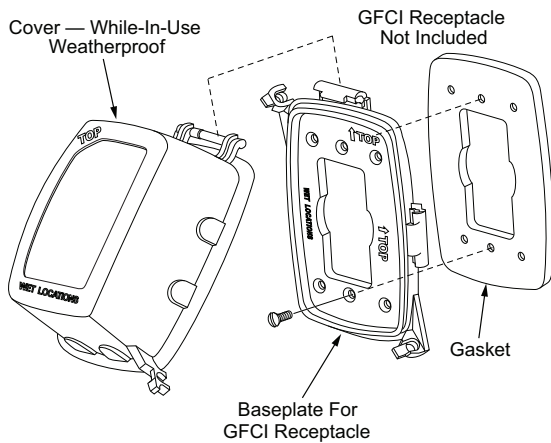

Fig. 32 — Weatherproof Cover Installation
4. Mount the weatherproof cover to the backing plate as shown in Fig. 32.